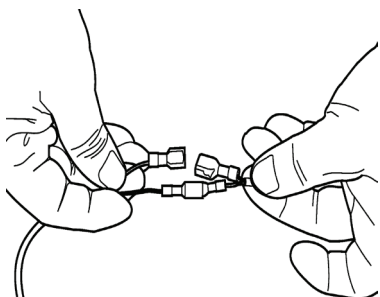

figure 19
5. Connect sensor wires together. These are the 4 plastic red connectors. They should line up and snap together (figure 19).
8. Connect sensor wires together. These are the 4 plastic red connectors. They should line up and snap together (figure 19).